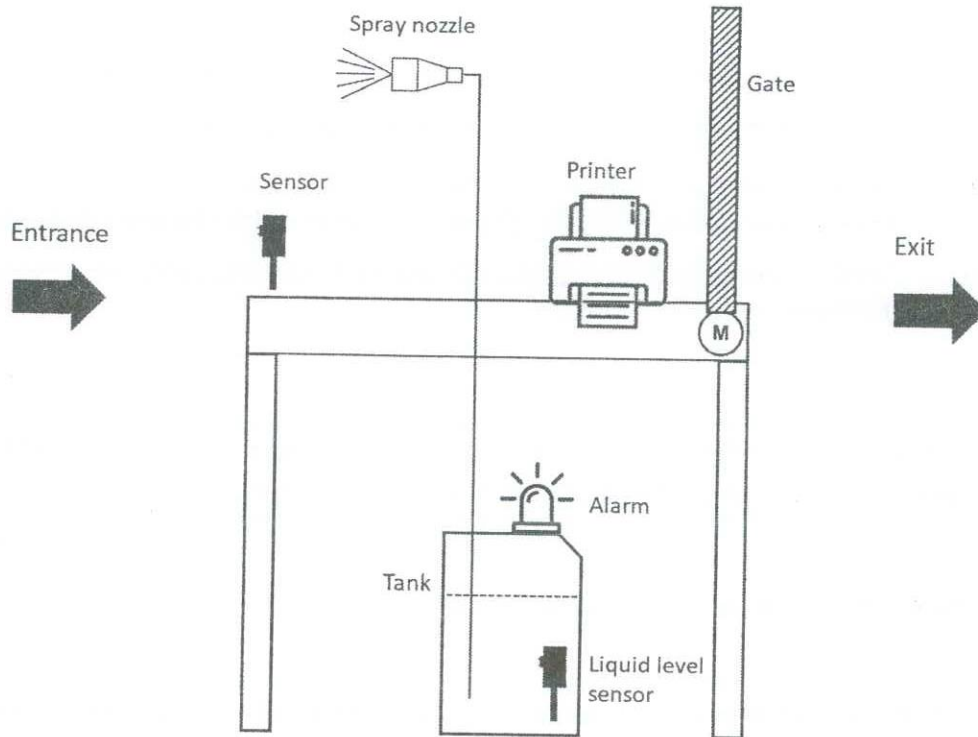

Figure Q5(d) – Layout of the automated hand sanitizing machine
- (d) To maintain health guidelines during the COVID 19 pandemic, an automated hand sanitizing process has been purposed at the entrance of a laboratory in order to automatically disinfect hands and to issue a token to each person entering the laboratory after this disinfection process. The layout of the machine is shown in **Figure Q5(d)**, and it is supposed to perform the following functions.